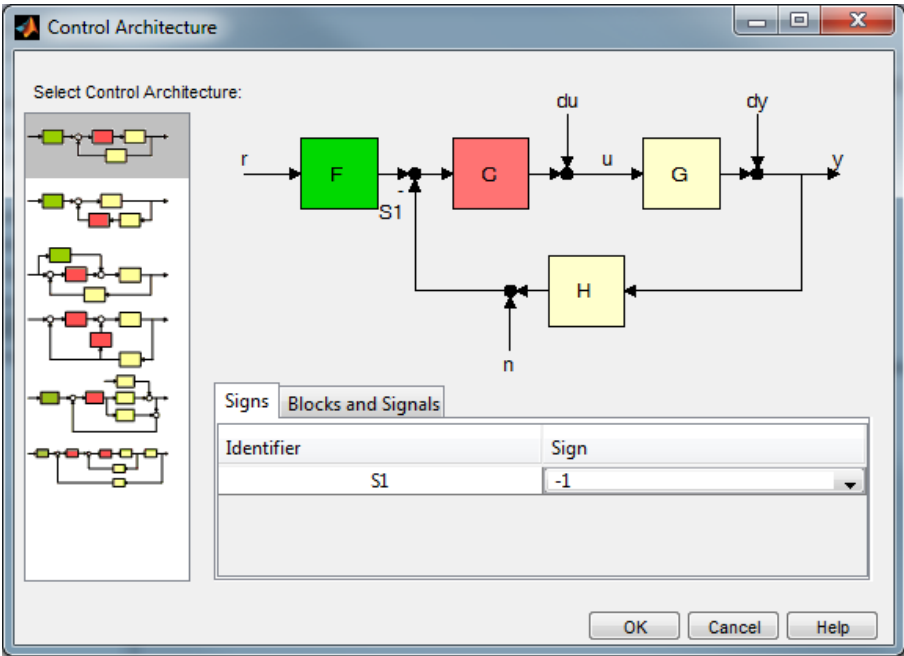

Figure 2 Control Loop Architecture
4. Choose the control architecture (Figure 2).